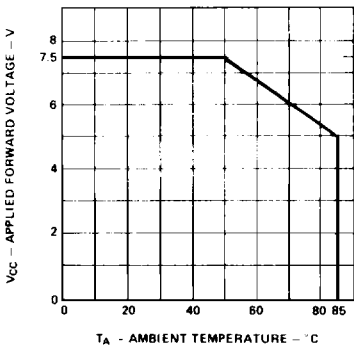

Figure 3. Maximum Allowed Applied Forward Voltage vs. Ambient Temperature  $R\theta_{JA} = 175^{\circ}\text{C/W}$ . 5 Volt Devices.
2. Derate from TA = 50°C at 0.071 V/°C, see Figure 3.